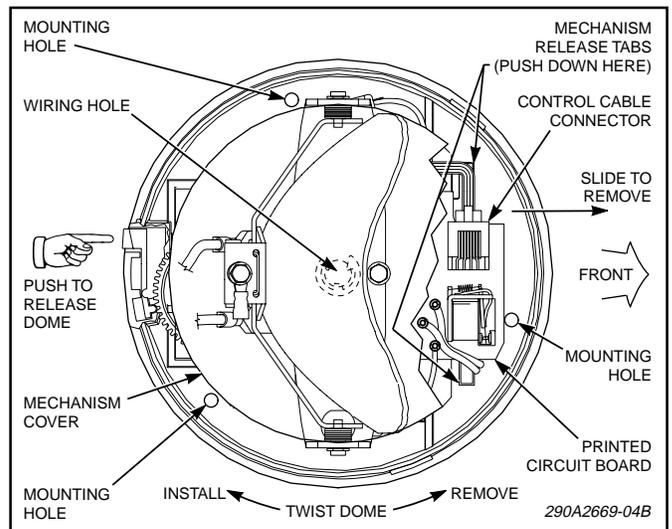

Figure 2.
1. Push and hold the dome release button (located in the plastic base). Turn the dome counterclockwise and lift the dome off the base (see figure 2).
C. *Mechanism Removal for Servicing (see figure 2).*